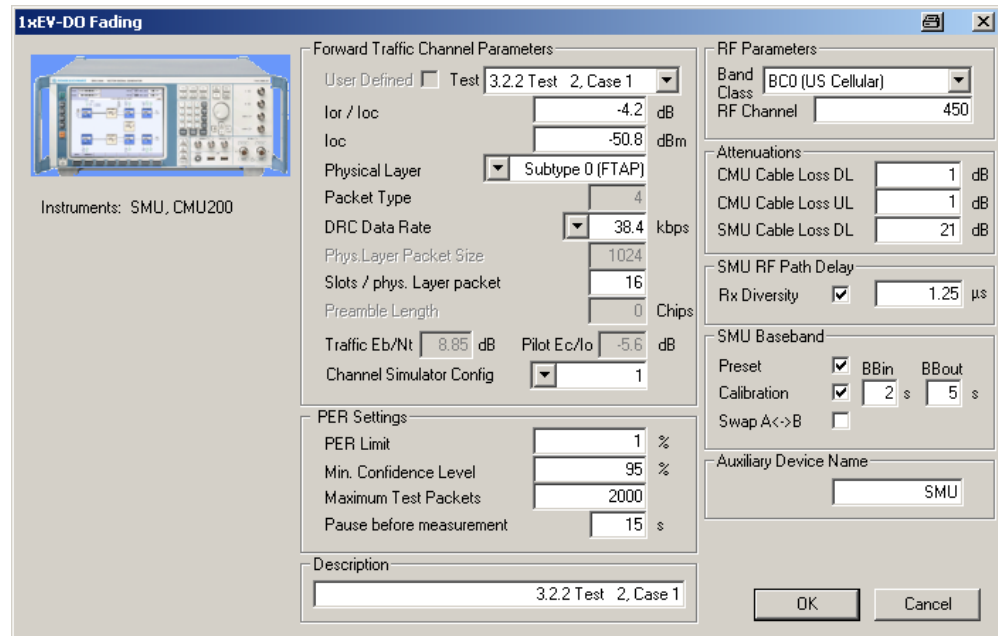

Fig. 3.2.2\_8 The generic 1xEV-DO Fading window for demodulation in multipath fading.
- 1) Double-click **1xEVDO FADING** in the list of the selected test items. The **1xEV-DO FADING** window appears (see Fig. 3.2.2\_8).